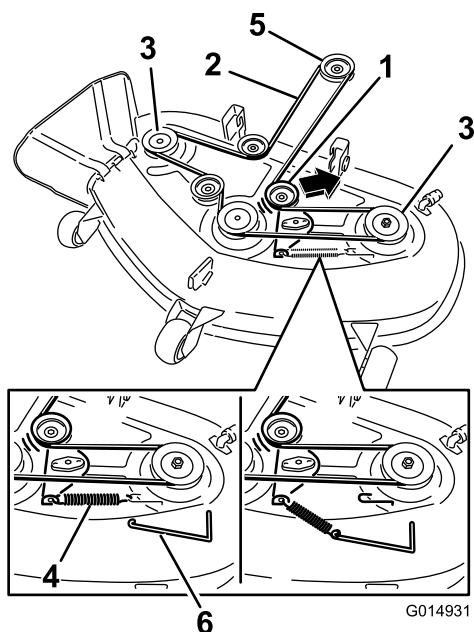

Figure 63
5. Using a spring-removal tool (Toro Part No. 92-5771), remove the idler spring from the deck hook to remove tension on the idler pulley, and roll the belt off the pulleys (Figure 63).
6. Route the new belt around the engine pulley and mower pulleys (Figure 63).
7. Using a spring-removal tool, install the idler spring over the deck hook, and place tension on the idler pulley and mower belt (Figure 63).